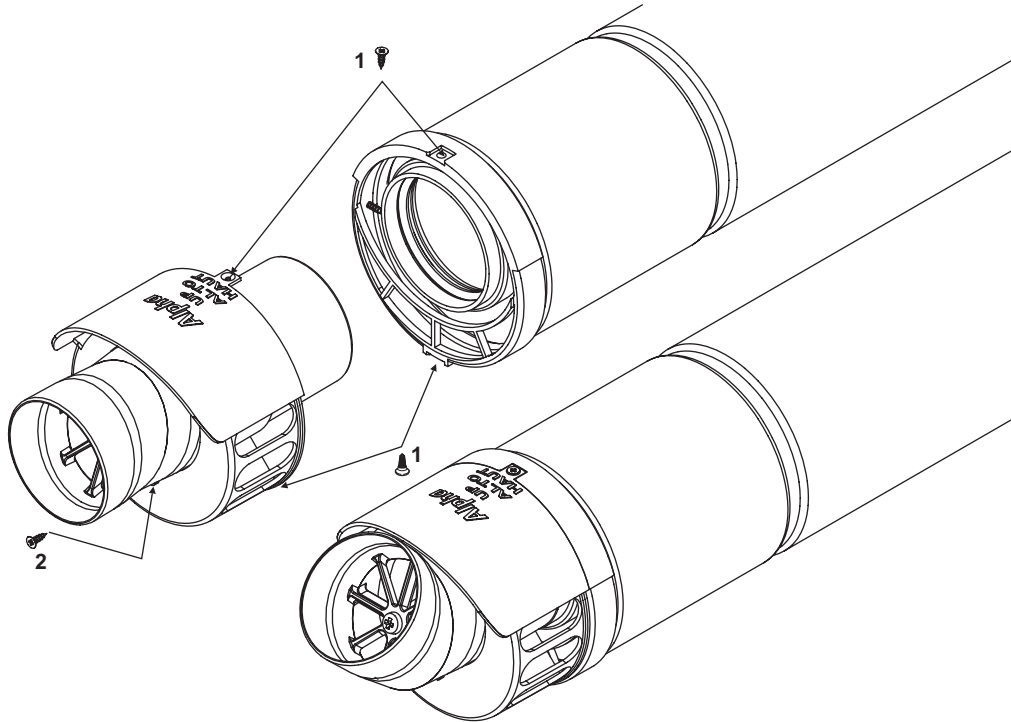

Fig. 8
- Remove the screws (1 in Fig. 8) securing the terminal and remove the terminal by pulling it from the flue assembly. Remove the screw (2 in Fig. 8) securing the terminal end section and remove the end section from the terminal.